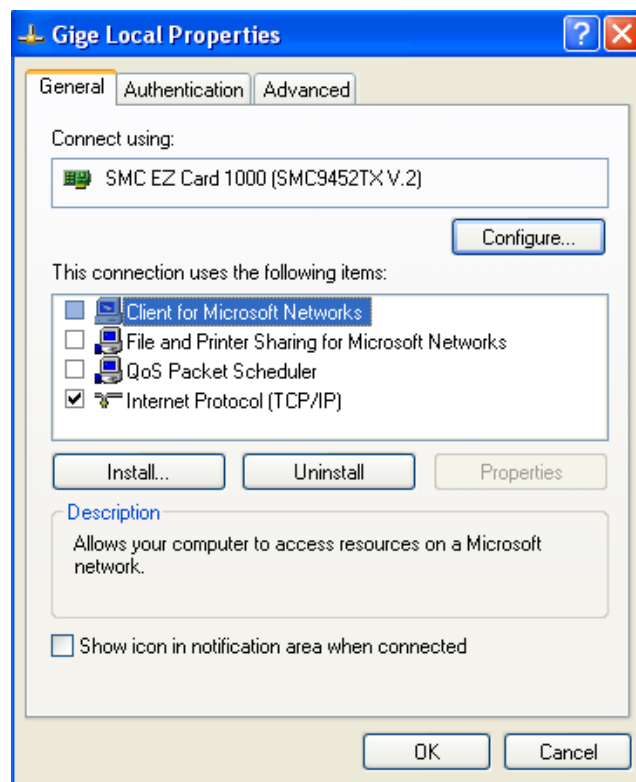
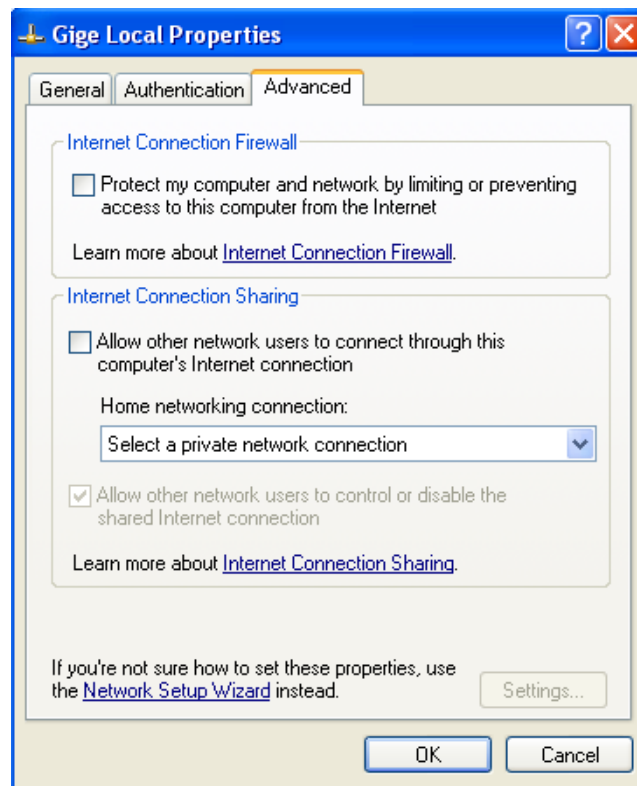

Figure 5. Network card main properties window.
Figure 7. Turn off Firewall.
- Once the driver is installed, open the Network Connections Dialog as follows: From the Windows desktop select *start*, then select **Control Panel**, then double click on the **Network Connections** icon. Double click the relevant network card listed or right-click the relevant network card and select **Properties**. This will open the properties window for your network card. See Figure 5.
- Return to the Gige Local Properties window as in Figure 5. Select the Advanced tab as in Figure 7 and disable the Firewall for this device. Click **OK** to save changes.